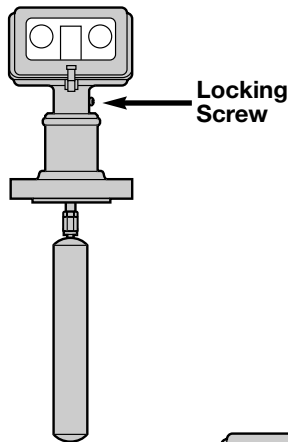

Figure 2
When mounting inside the tank is possible, flanged top models are the answer (figure 2). They are used extensively in interface control applications where nonstandard displacers become necessary. An adjustable stainless steel displacer hanger cable is also available. Top mounting models are directly interchangeable with the external cage models.
**Caution:** All Modulelevel units are shipped from the factory with the enclosing tube tightened and the controller head set screw locked to the enclosing tube (see figure 2, page 3). Failure to loosen the set screw prior to repositioning the supply and output connections may cause the enclosing tube to loosen, resulting in the possible leakage of the process liquid or vapor.